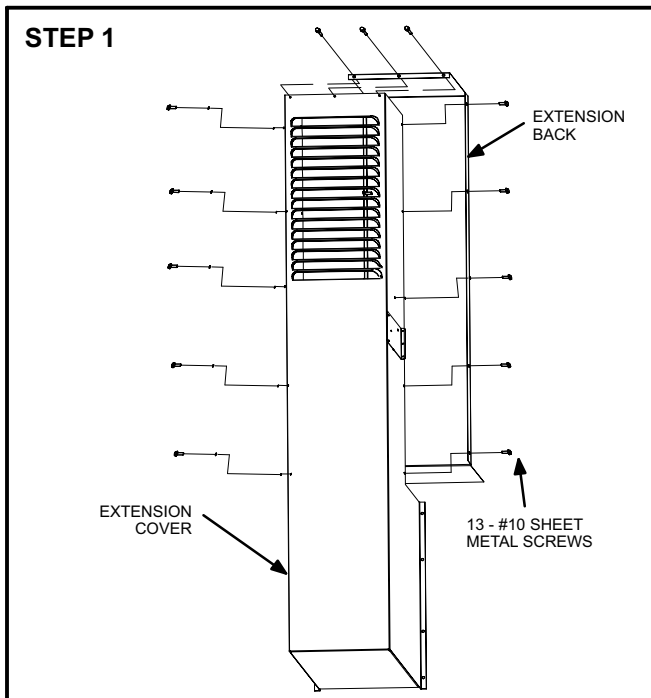

Figure 1. Install Extension Back on Extension Cover
- Step 1. Install the extension back on the extension cover as illustrated in figure 1 using the 13 - #10 sheet metal screws provided.